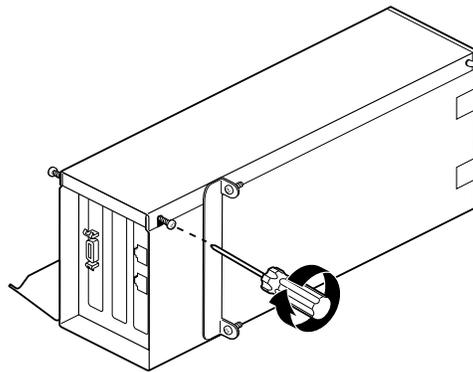

Figure 4-45 Tightening the PCI Module Door Screws
11. Tighten the PCI module door screws, as shown in Figure 4-45.